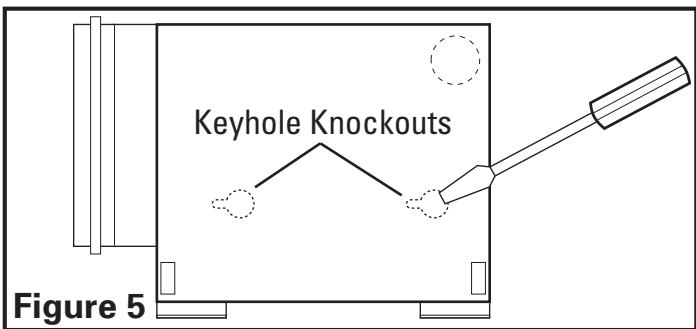

Figure 5
2a. **Keyhole Installation:** Using a straight bladed screw drive, punch out the two keyhole slot knockouts on the side of the housing that will be attached to the joist (**Figure 5**).
- 2a. **Keyhole Installation:** Using a straight bladed screw drive, punch out the two keyhole slot knockouts on the side of the housing that will be attached to the joist (**Figure 5**).